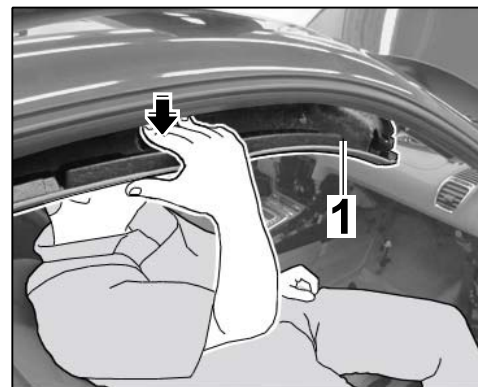

Figure 4
- 2.1.6 Carefully pull the headliner ⇒ *Figure 4-1*- down ⇒ *Figure 4-arrow*-.